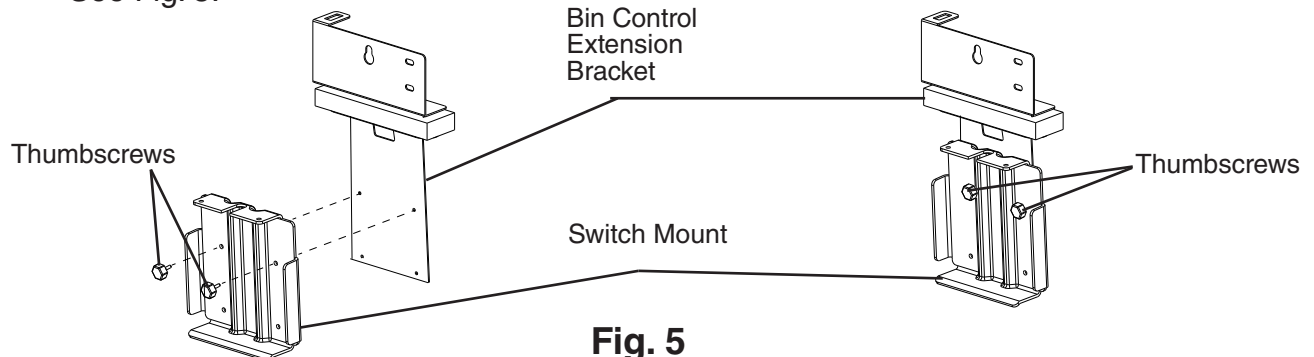

Fig. 5
- 4) Remove the switch mount and thumbscrews from the accessory bag. Open the ice storage bin door and install the switch mount to the bin control extension bracket. See Fig. 5.